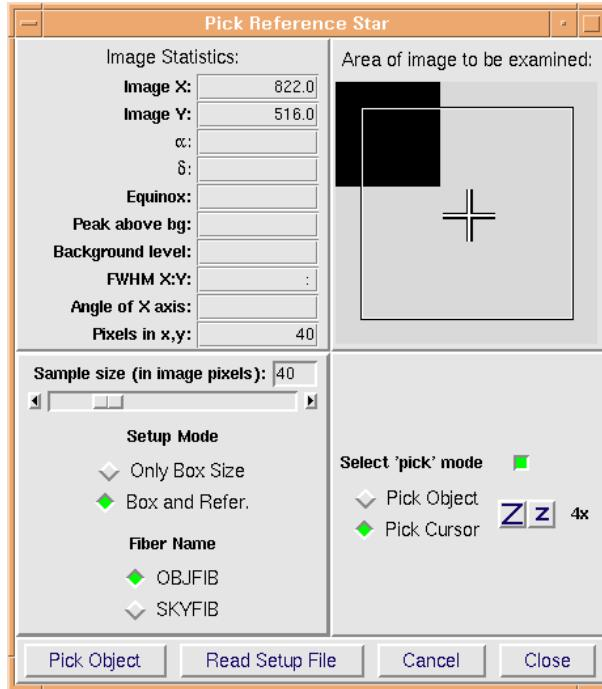

Figure 6.4: Window to set FEROS fibre reference position Pick Reference Star. Select checkbox Pick Cursor.
- a. Open or activate window **Pick Reference Star** (Fig. 6.4, p. 60).